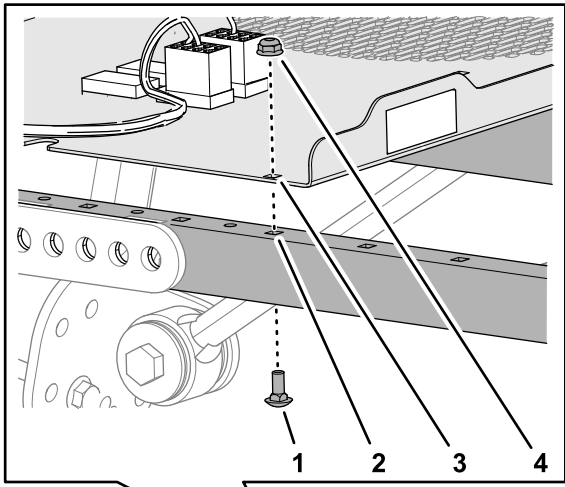

Figure 6
1. Align the square holes in the switch panel with the square holes in the 2 side-frame channels of the sunshade as shown in Figure 6.
2. Assemble the switch panel to the side-frame channels (Figure 6) with the 4 carriage bolts and 4 nuts.